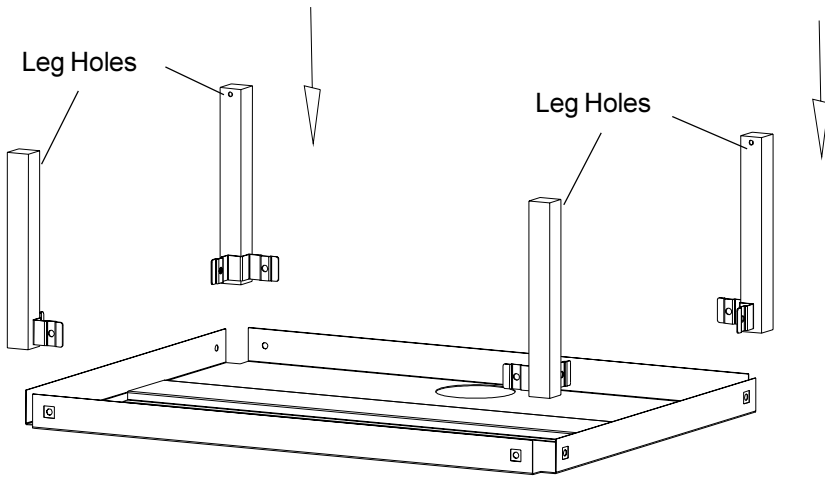
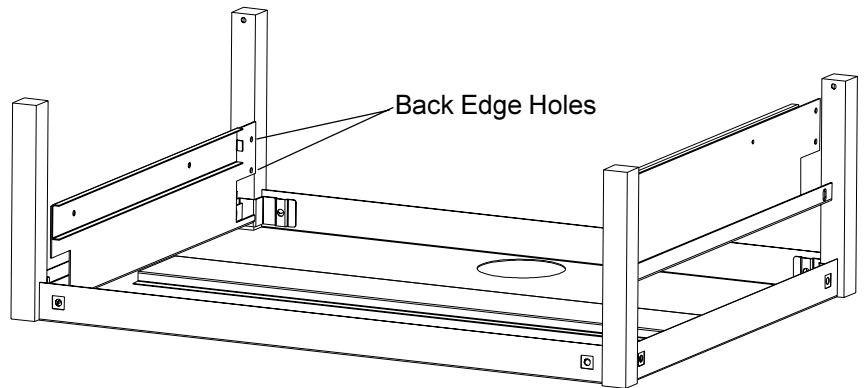
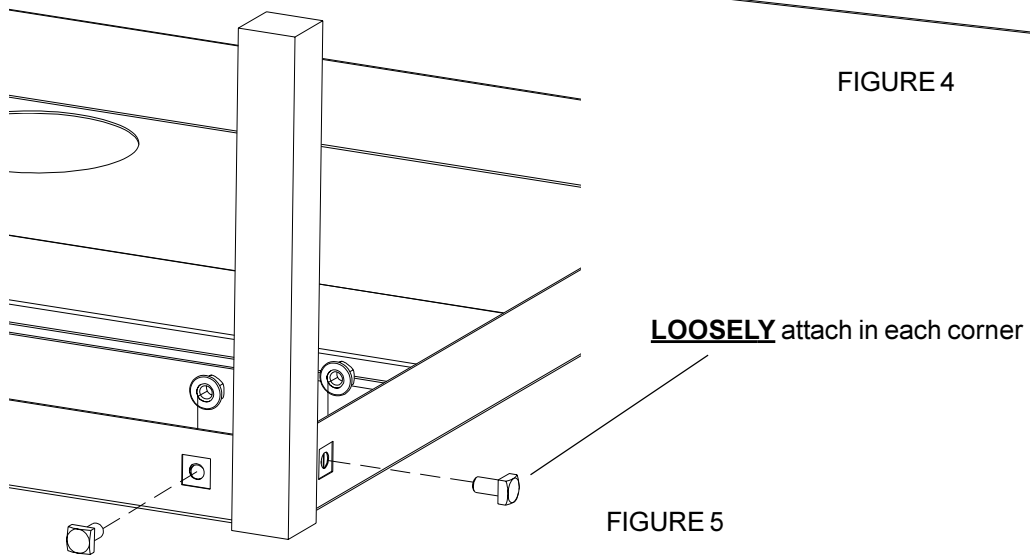

FIGURE 3
FIGURE 4
FIGURE 5
Lay the top shelf down and install the upper legs in each corner as shown in **FIGURE 3**. All four leg holes should face inward front to rear. Slide the right and left slide brackets between the legs as shown in **FIGURE 4**. The slides face inward and the 2 holes face the back edge. Then **LOOSELY** attach legs and brackets to top shelf using bolt (AA) and nuts (BB) as shown in **FIGURE 5**.